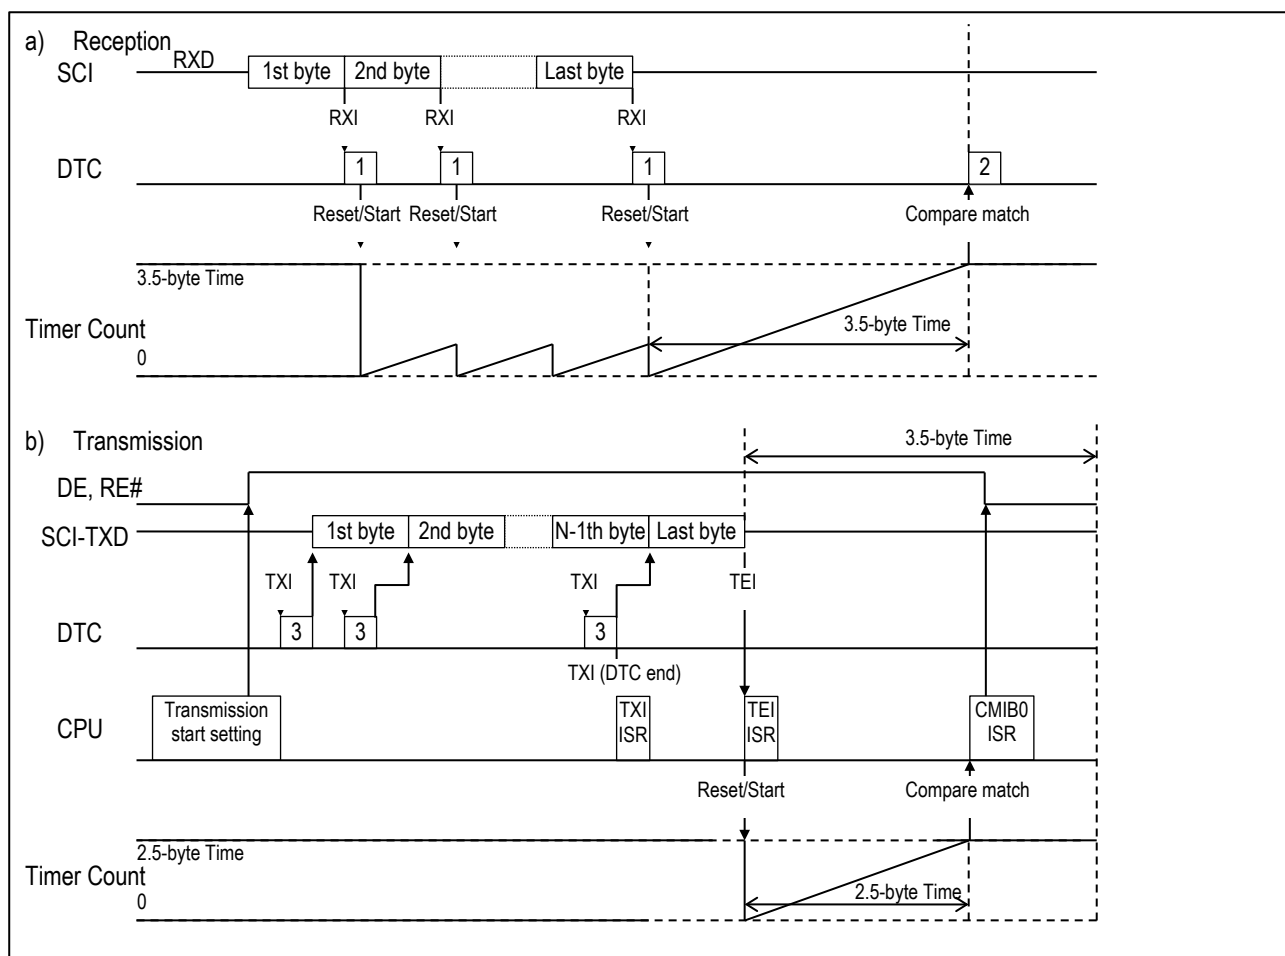
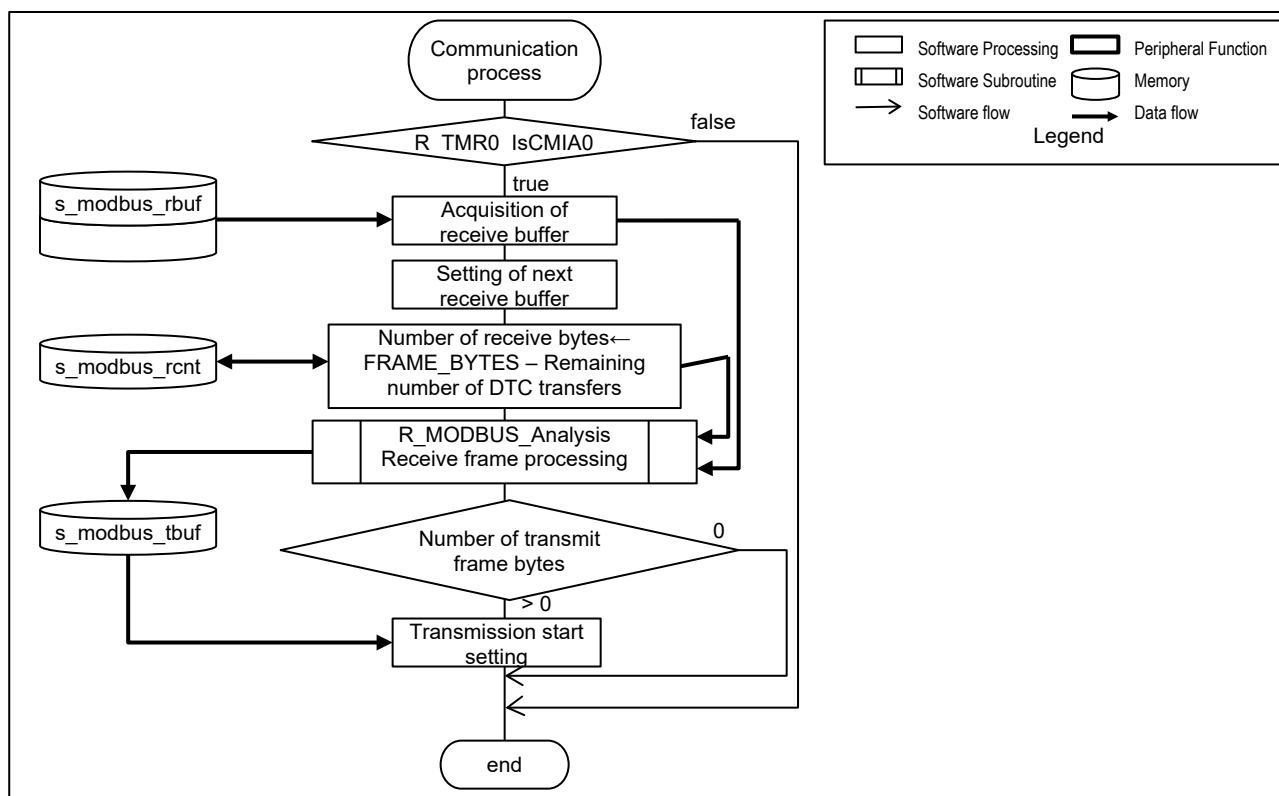

Figure 8-3 Modbus Communication Timing Chart
Figure 8-4 Modbus Communication Process Flow
A communication timing chart is shown in Figure 8-3, and the communication process flow is shown in Figure 8-4.
(1) At the RXI1 interrupt request for every 1-byte reception, DTC transfer 1 (DTC_RXI1) performs the following:
(2) On TMR0 compare match A interrupt request (CMIA0), DTC transfer 2 (DTC_CMIA0) performs the following:
(3) As shown in Figure 8-4, when CMIA0 is detected, the program acquires and clears the DTC transfer count and processes the Modbus receive frame in the receive buffer.
(1) To prepare for transmission, the program performs the following in "Transmission start setting" in Figure 8-4.
- (2) On TXI1 interrupt request, DTC transfer 3 (DTC_TXI1) transfers 1 byte of the transmission frame to the transmission register.
- (3) On TXI1 interrupt request due to the completion of DTC transfer 3 (DTC_TXI1), the interrupt handler performs the following actions:
- (4) On TEI1 interrupt, the interrupt handler performs the following actions: